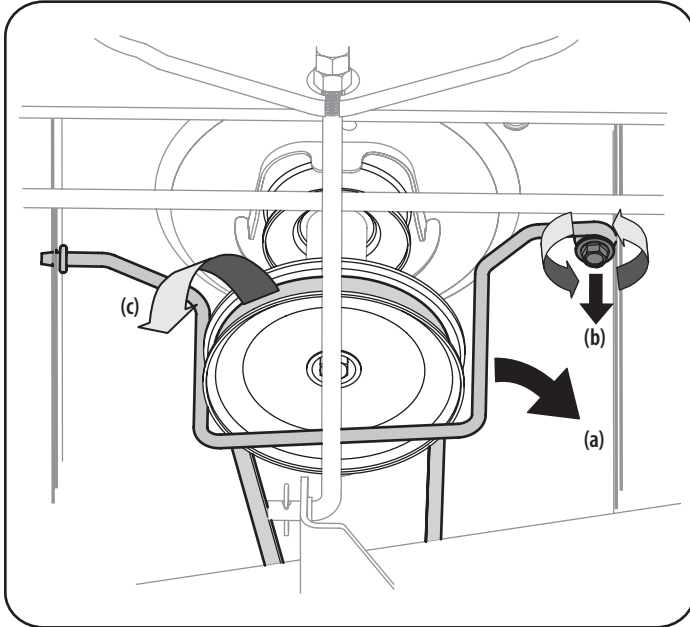

Figure 13
8. Remove the bow-tie pin (a) securing the deck stabilizer rod (b) to the deck. Slide the deck lift rod from the mounting weldment on the deck as seen in Figure 13.